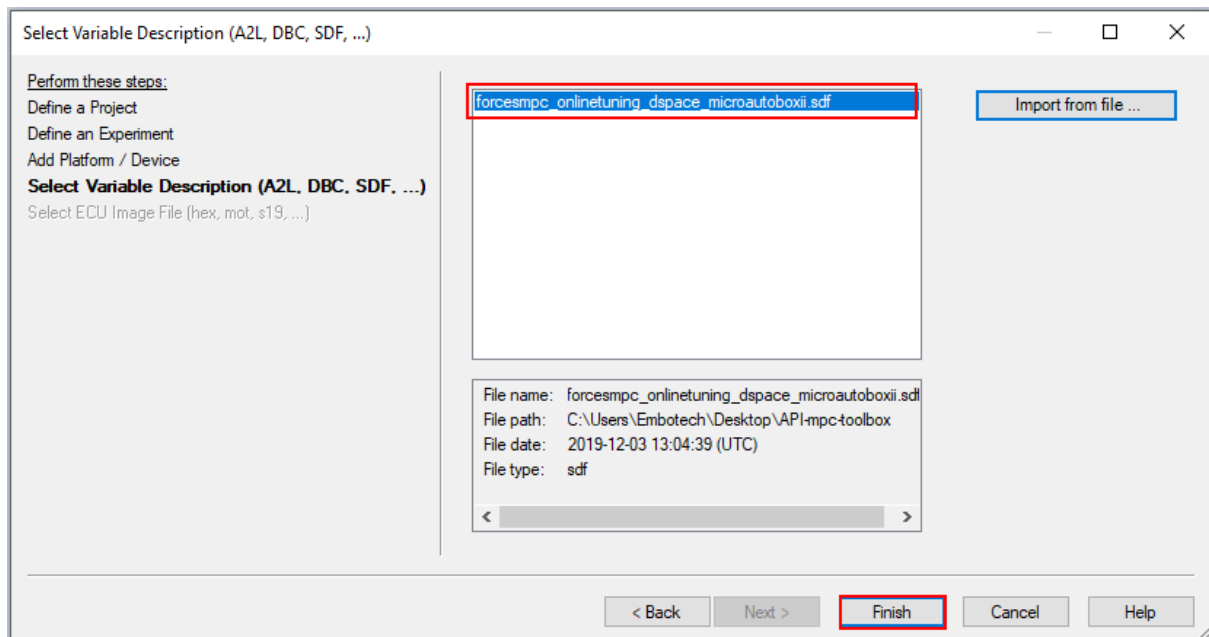

Figure 6.14: Click Finish to create the project
- 10) Click Finish to create the project (see Figure 6.14).